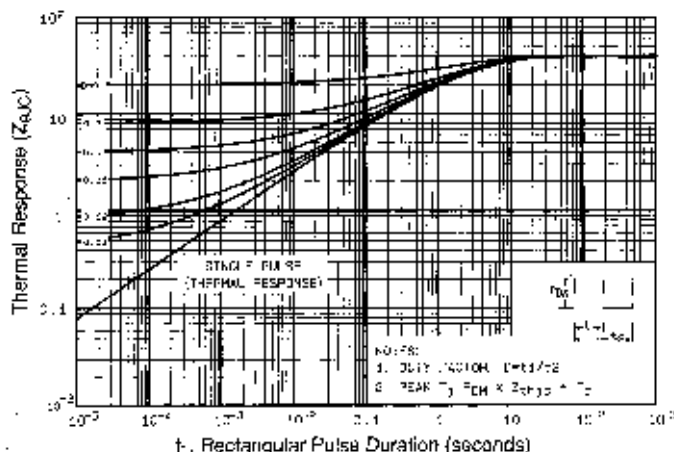

Fig 11. Maximum Effective Transient Thermal Impedance, Junction-to-Case
(9) Repetitive rating; pulse width limited by max. junction temperature (See Figure 11)